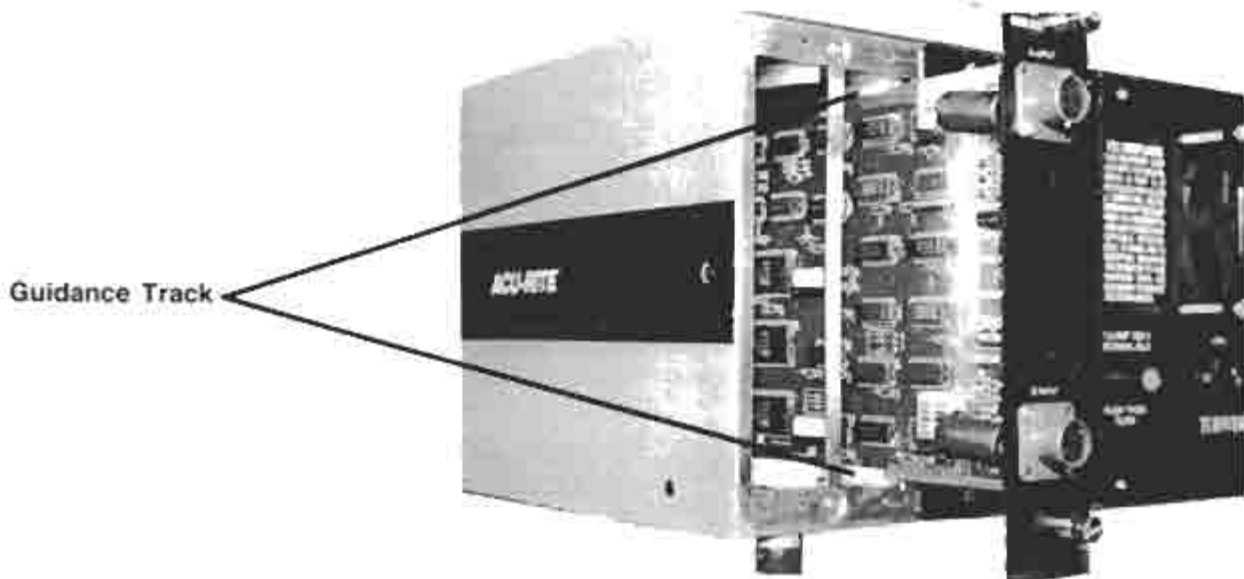

Figure 4. Module Installation.
- 4) Slide new module into chassis until rear plate is tight to chassis frame (Figure 4).